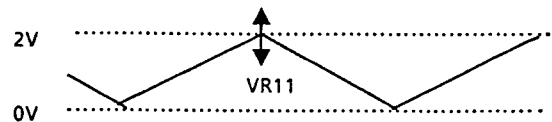

Fig. 4-19
- Adjust VR11 so that the peak level of triangle waveform becomes $2\text{ V} \pm 0.05\text{V}$. (Fig. 4-19)